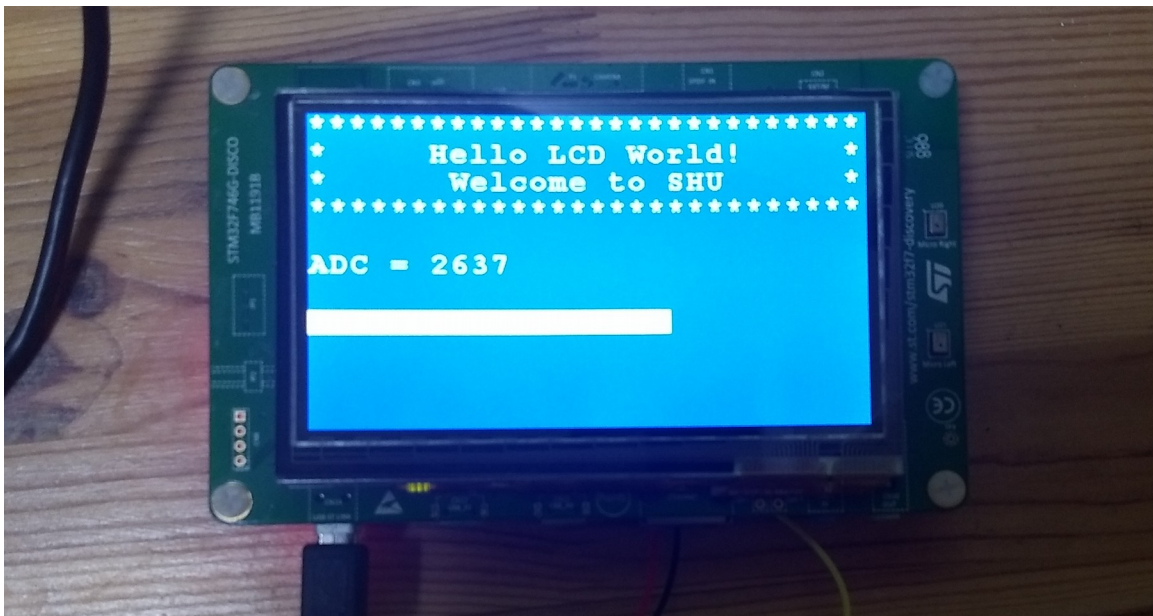

Figure 3 – An example bar graph display on the stm32f7 discovery board LCD
3. Try outputting the potentiometer values to the LCD screen as a bar graph. You should look to scaling the potentiometer values and using them to create a rectangle³. I would **highly** recommend using pseudocode or other algorithm design methodologies before actually writing the code! Figure 3 shows an example of what this might look like.
As you can see from Figure 3 we get an analog voltage out (much like using a potentiometer). We will then have to convert that into a temperature using information from the data sheet (see Appendix A).